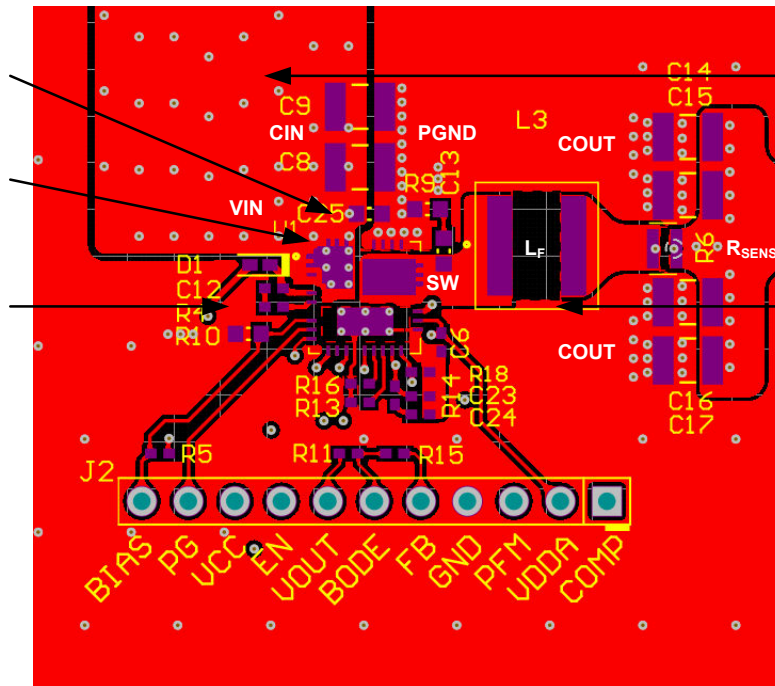

Figure 8-29. PCB Top Layer – High Density, Single-sided Design
The following list summarizes the essential guidelines for PCB layout and component placement to optimize DC/DC converter performance, including thermals and EMI signature. Figure 8-29 shows a recommended layout of the LM708x0-Q1 with optimized placement and routing of the power-stage and small-signal components.
- Use low-ESR ceramic capacitors with X7R or X7S dielectric from VIN to PGND. Place an 0402 capacitor close to VIN for high-frequency bypass as shown in Figure 8-29. Use additional 1206 or 1210 capacitors for bulk capacitance.